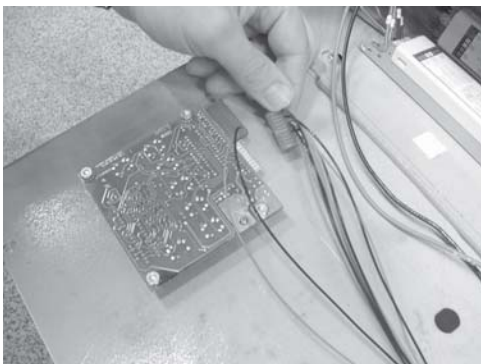

Figure 3-37
4. Pull the connectors from PC Board. Figure 3-37.